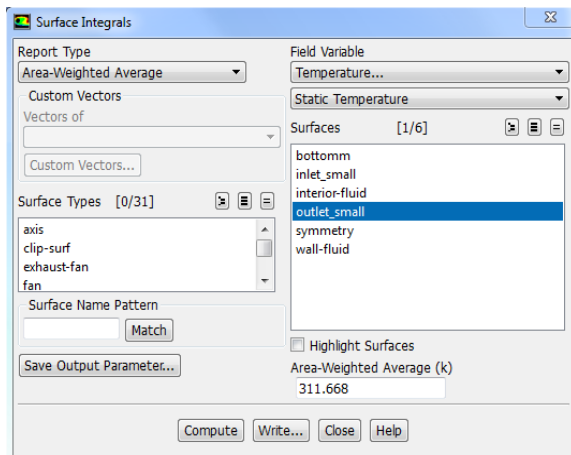

Figure 3. Case A
Another method to confirm the answers, the surface integral of area weighted average is taken and the outlet temperature is calculated by fluent. Figure 3 and 4 explain the same concept for case A and Case B respectively. This method directly calculates the temperature at the outlet
Another method to confirm the answers, the surface integral of area weighted average is taken and the outlet temperature is calculated by fluent. Figure 3 and 4 explain the same concept for case A and Case B respectively. This method directly calculates the temperature at the outlet. Figure 22 gives the table through which the area weighted average is calculated and hence temperature. Figure 21 gives the value of the numerator and denominator which are used in equation (1) to get the outlet temperature.